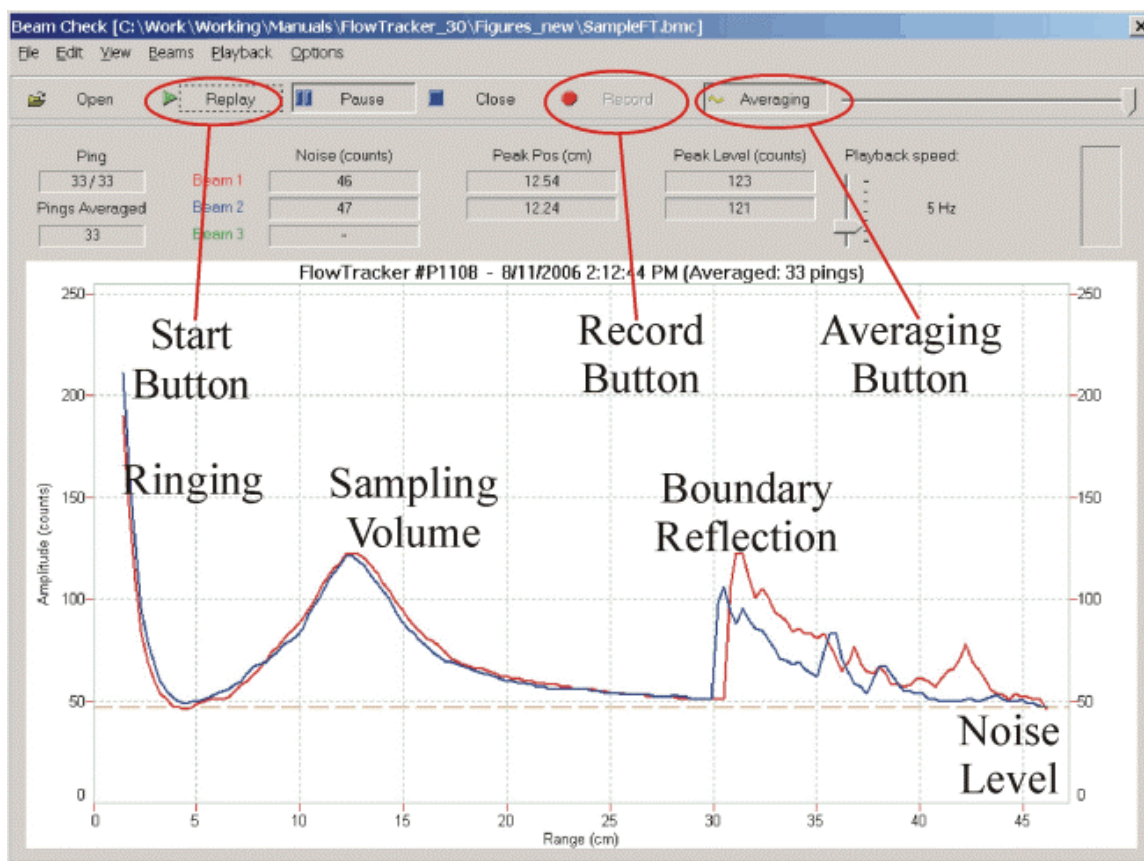

Figure 11 – BeamCheck Sample Output Screen
BeamCheck (Figure 11) is a diagnostic program that is used to verify FlowTracker performance. This is the same diagnostic program used at SonTek; it provides you with a powerful tool for understanding and verifying system performance. We recommend you become familiar with this software and use it on a regular basis.
- Figure 11 shows a sample output screen.
In *BeamCheck*, the FlowTracker sends a pulse of sound and outputs the return signal strength for each receiver as a function of time. Features in the signal strength profile verify different aspects of system performance (Figure 11).
- Each of the above items should be visible (Figure 11).